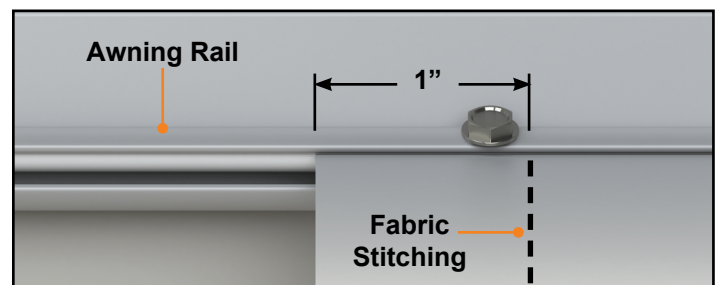

Fig.10
2. Secure the fabric in the awning rail no more than 1" inside the edge of the fabric on both ends using a #6 x $\frac{1}{2}$ " hex. head screw. Install the screw down through the awning rail into the fabric and the polycord (**Fig.10**).
2. Remove the two #6 x 1/2" hex head screws located on the awning rail. Set screws aside (**Fig.10**).